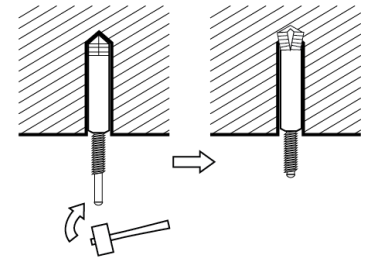

Fig. 4
2. Insert the anchor bolts into the drilled holes, and drive the pins completely into the anchor bolts with a hammer (Fig. 4).